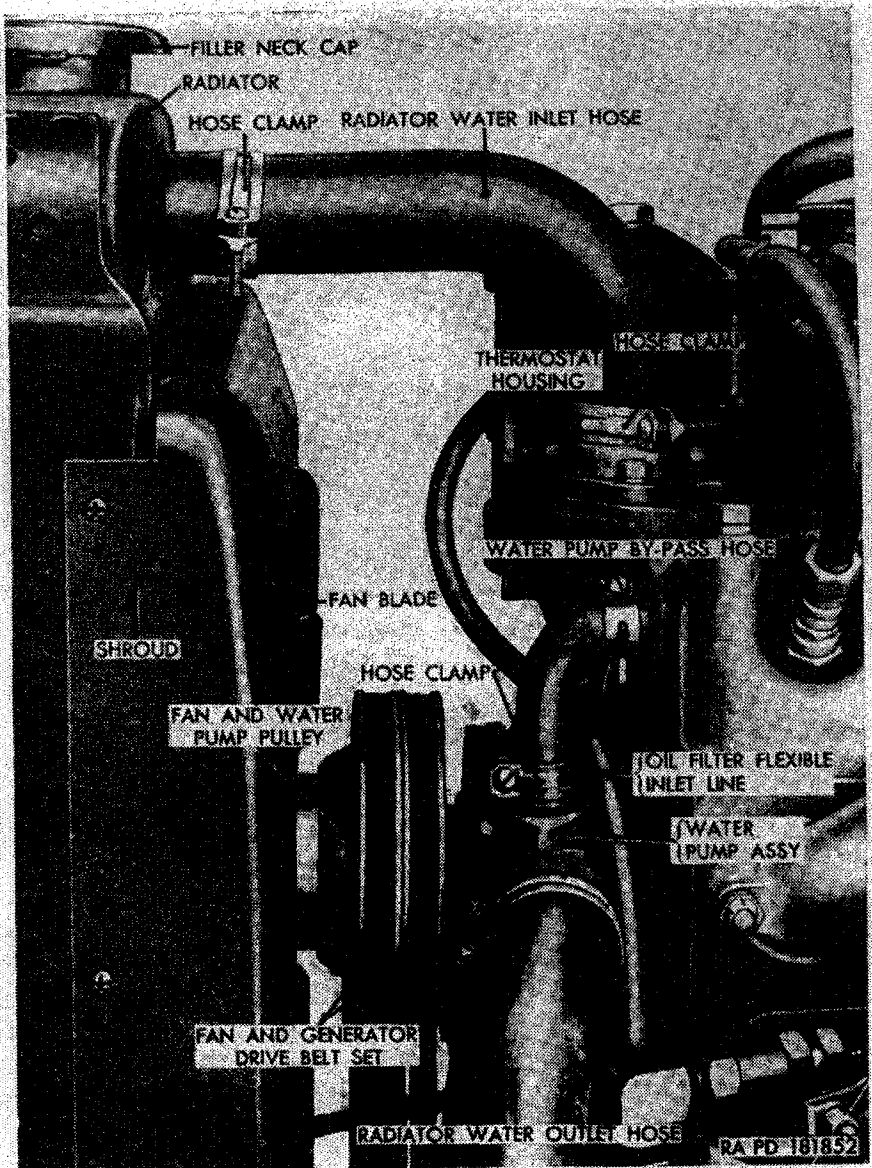

Figure 60. Cooling System.
a. *Description.* The cooling system (fig. 60) includes the radiator, fan, water pump, water temperature thermostat, fan and generator drive belts, and connecting hose and fittings. The radiator is the cellular-type with upper and lower tanks. A pressure-type filler neck cap permits cooling system pressure to rise to $4\frac{1}{2}$ psi. The four-blade fan and the centrifugal-type water pump are driven from the generator drive pulley by a matched pair of V-belts. The water temperature thermostat is a bellows-type, located on top of the cylinder head in the thermostat housing. With the coolant below normal operating temperature (160° to 180° F.), the thermostat blocks coolant return to the top of the radiator, returning the coolant directly to the pump through the water pump bypass.
- (1) Drain the cooling system (par. 127a(1)) and remove the radiator guard (pars. 257a for the M38A1 and 266a for the M170).
- (2) Loosen the hose clamp screws on the radiator water inlet and water outlet hose (fig. 60) and pull hose from connections on radiator.
- (3) Lift the radiator with shroud assembly off the radiator-to-engine support rods, taking care that the radiator core does not rub against the fan blade.
(fig. 60)
a. Removal (fig. 60).
- (1) Remove the radiator with shroud assembly (par. 128*a*). Loosen the hose clamp screw on the water pump end of the radiator water outlet hose, and remove hose with clamp from connection on the water pump. Loosen the hose clamp screw on the water pump end of the water pump bypass hose. Remove the fan and generator drive belt set (par. 130*b*).
- (2) Remove the four bolts and lockwashers securing the fan blade to the fan and water pump pulley, and remove fan blade.
- (3) Remove the four screws and lockwashers securing the water pump to the cylinder block. Pull the pump with pulley and gasket from the cylinder block, at the same time, slipping the connection on the water pump out of the end of the water pump bypass hose. Discard gasket.
- (1) Place the fan and water pump pulley on the end of the water pump shaft and press it onto the shaft until the front face of the pulley hub is flush with the end of the shaft.
- (2) Make sure the gasket surfaces of the cylinder block and water pump body are clean and free of rust or scale. Place a new gasket on the water pump body with the gasket holes alined with the bolt holes in the water pump body.
- (3) Position the water pump assembly (fig. 60) in the opening in the front of the cylinder block, at the same time, sliding the water pump bypass hose with clamp over the connection on the water pump.
- (4) Insert a $\frac{5}{16} \times 2\frac{1}{2}$ screw, with lockwasher, through the hole in the water pump body inlet opening. Start the threads but do not tighten. Insert a $\frac{5}{16} \times \frac{7}{8}$ screw, with lockwasher, into the top mounting hole in the water pump body and through the clip securing the flexible oil line to the cylinder block, and start the threads. Insert two $\frac{5}{16} \times \frac{7}{8}$ screws, with lock-
- (5) Screw the nut on the fuel line (A) into the elbow (C). Screw the nut on the vacuum pump-to-tee line (J) end into the elbow (L). Screw the nut on the vent line (F) end into the elbow (H). Screw the nut on the fuel line (P) end into the flexible fuel line (R).